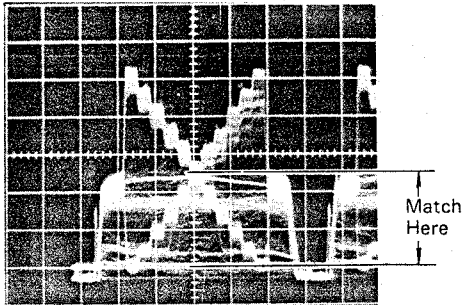

Fig. 6-4-26
- Connect the oscilloscope to TP308(R) and TP309(Y_L).
- Overlay the R signal and Y_L signal on the oscilloscope, and adjust RED GAIN PRESET VR318 so that the signals match in the lower half of the gray scale. (Fig. 6-4-26)